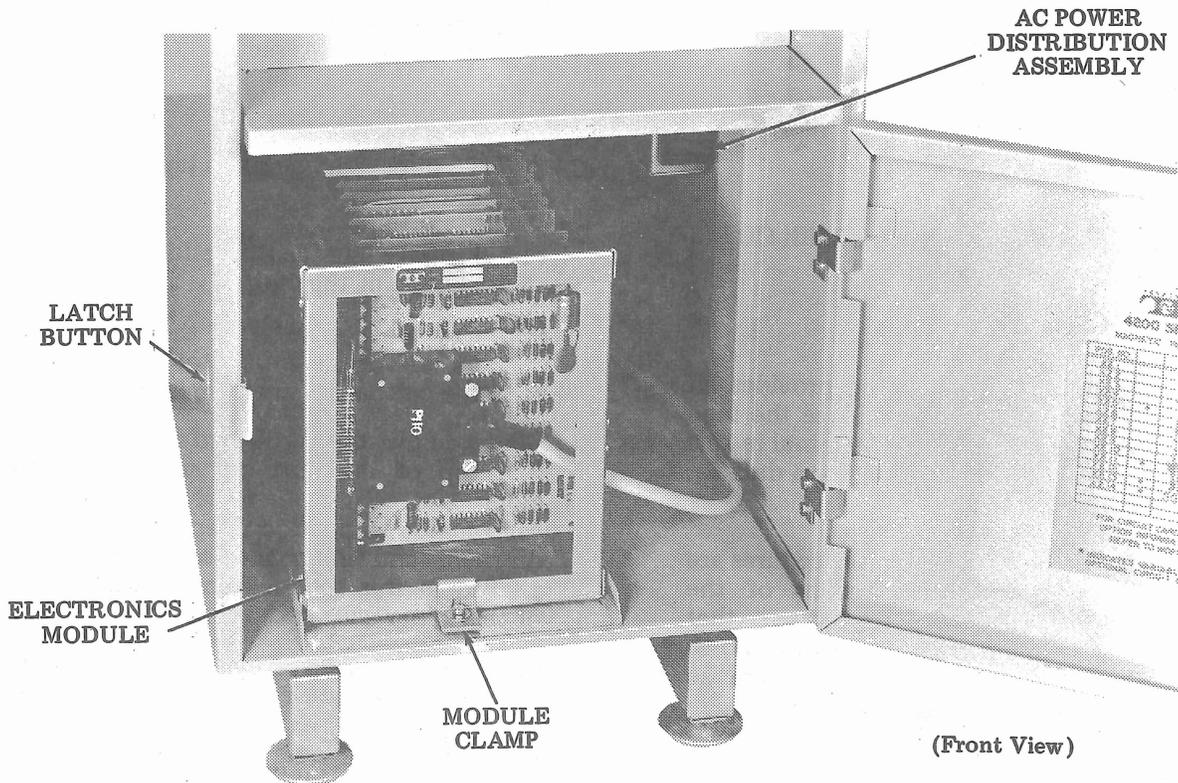

Figure 3 - Module Compartment of Cabinet Used in Stand-Alone Service or With 33, 35, 37, or 40 Teletypewriters
- (1) Open the cabinet lower door by pressing the latch button on the left side of the cabinet (Figure 3).
- (2) Remove the screw, lockwasher, flat washer, and module clamp from the base of the cabinet.
- (3) Slide the module forward and rest it on the floor in front of the cabinet. (If there is a retaining clamp